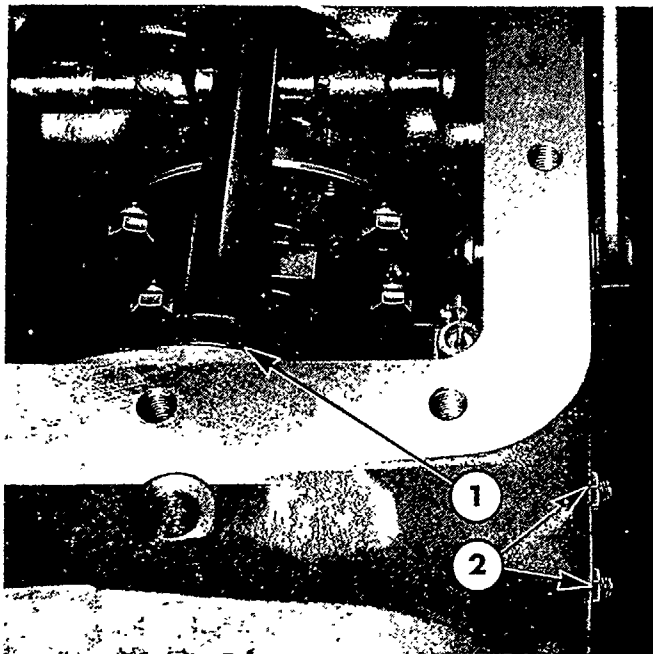

Figure 4
6. Remove the two P.T.O. clutch valve locating pins and locknuts from the left-hand side of the centre housing, Figure 4.